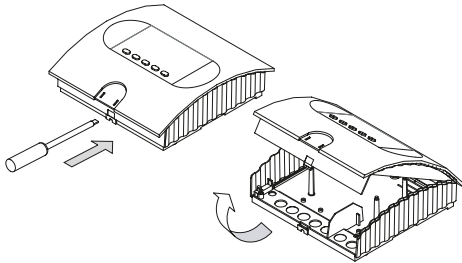

Fig. 1
1. Remove the cover of the power element. To do this, push the retaining tang to the inside with a flat screwdriver and pivot the housing top upwards (Fig. 1).